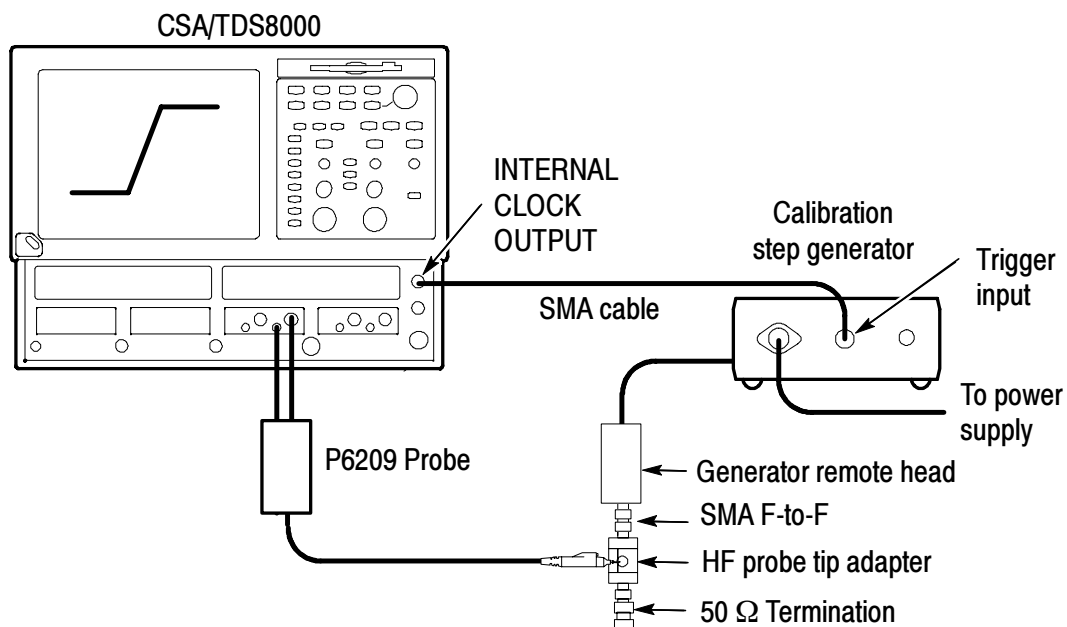

Figure 15: Test system and probe rise time setup
The following steps instruct you to assemble the test system that includes the probe, as shown in Figure 15. The system and probe rise time (t_{s+p}) that you measure in step 8 is used to calculate the probe rise time (t_p) in step 9.
- Connect the test equipment as shown in Figure 15.
- Adjust the oscilloscope horizontal and vertical position controls to display a signal similar to that shown in Figure 15.